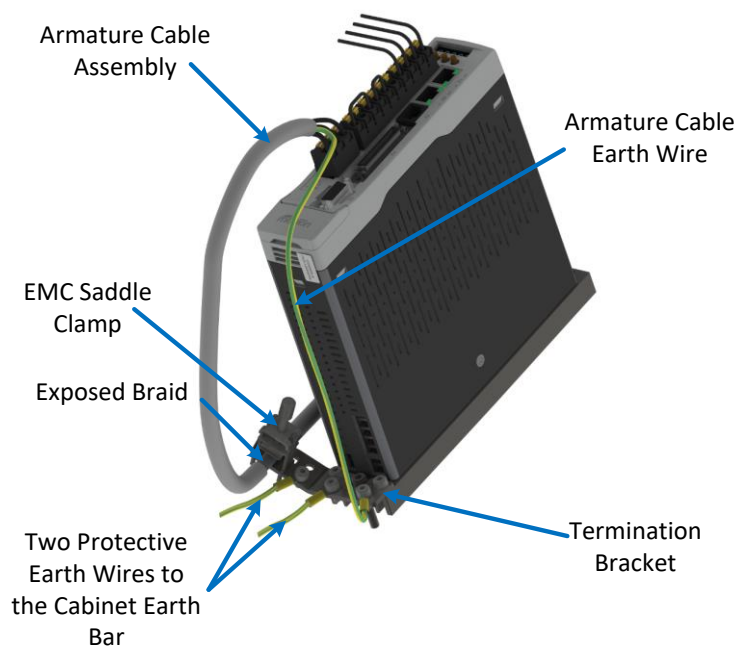
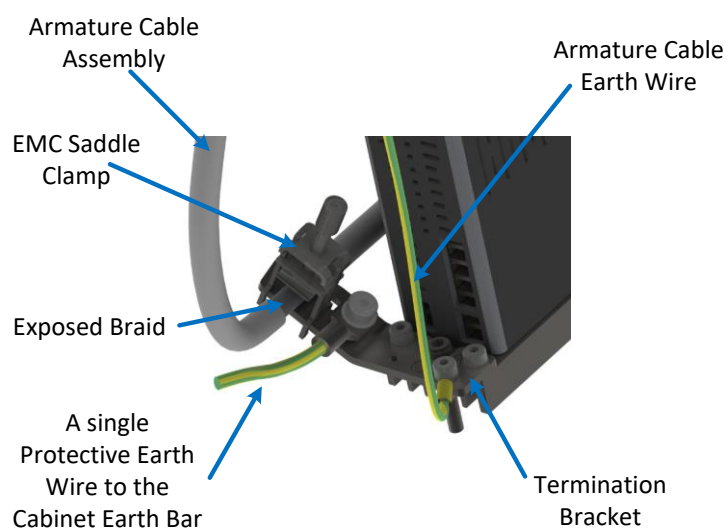

Figure 6-18 D2103 Armature Cable Shield Connection with Two PE Wires
Figure 6-19 D2103 Armature Cable Shield Connection with One PE Wire
- The position of the exposed braid is to coincide with the EMC Saddle Clamp and the metal bracket to provide sufficient contact for termination (see Figure 6-18 and Figure 6-19).
- Ensure that the armature cable earth wire is connected to an M4 ring lug using one M4 screw from the Armature Termination Bracket assembly kit and connect to the bracket as shown in Figure 6-18 and Figure 6-19. The maximum tightening torque is 1.5 Nm.
- The Armature Termination Bracket has been designed to allow the Protective Earth (PE) wires to be connected in two ways:
- a) Connection for two PE wires less than 10mm2 Cu by using two M4 screws (see Figure 6-18). The maximum tightening torque is 1.5 Nm.
- b) A single PE wire if the conductor size is greater than 10mm2 Cu by using a single M6 screw (see Figure 6-19). The maximum tightening torque is 3 Nm.